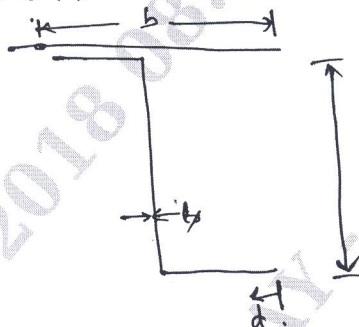

Fig.Q5(b)
- b. A panel comprising flat sheet and uniformly spaced Z section stringers is subjected to a uniform compressive load is to be stabilized by frames & distance 'l' apart 'l' approx. greater than b. State the mode of failure y would consider & h_0 , y would find limiting stresses stringers shown in Fig.Q5(b). Assume skin thickness 't'.